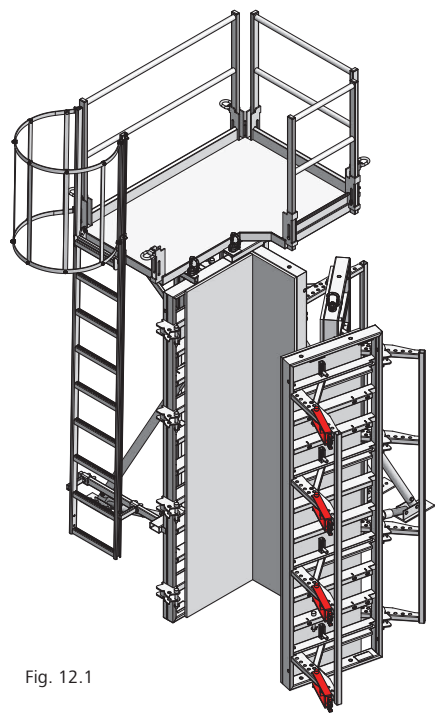

Fig. 12.1
- 1. Rotate the column panels into position and close them by hand as far as possible (Fig. 12.1).